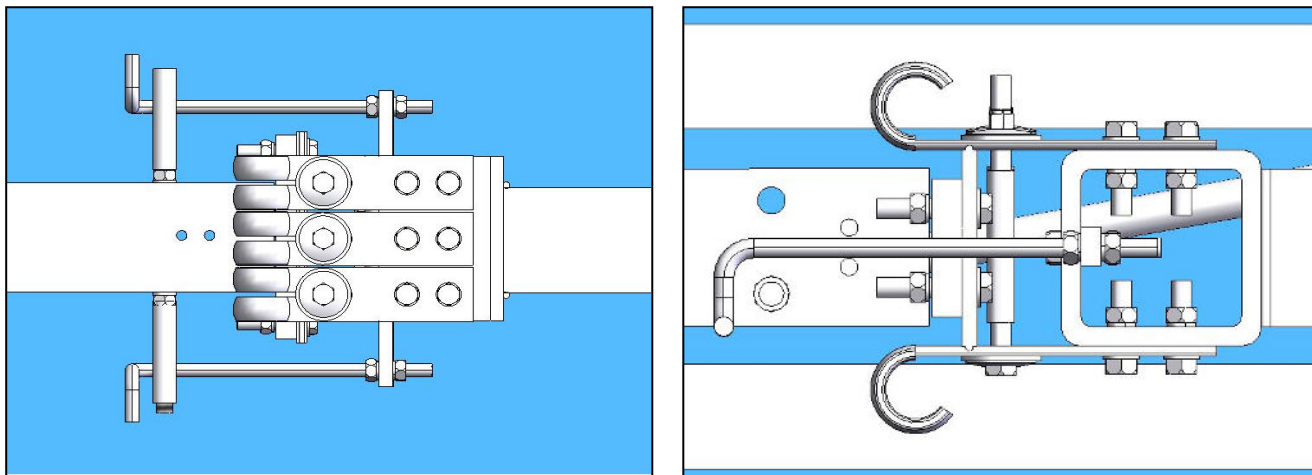

Figure 21: Switch - Fully Closed Position (Left: Side view, Right: Top view)
3.1. Start with the disconnect switch and operating mechanism in the closed position. Refer to **Figure 21**.